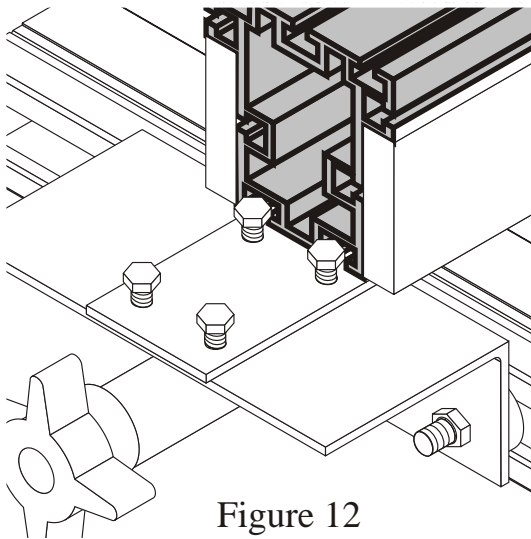

Figure 12
Mount the Fence to the Fence Mounting Bracket (Part #3) by first laying the fence on the table top and position the fence so that the t-slots on the bottom edge of the fence align with the four (4) mounting bolts on the Fence Carriage. (Figure 12 & 13) Lift the bolts up from the bottom as you slide the Fence onto the four the bolt heads. Position the Fence so that the end of the Fence is even with the edge of the Fence Carriage. (Figure 14) Snug the four (4) bolts from the bottom so that Fence is just tight enough not to move on the Fence Carriage. You will tighten bolts fully after fence alignment.